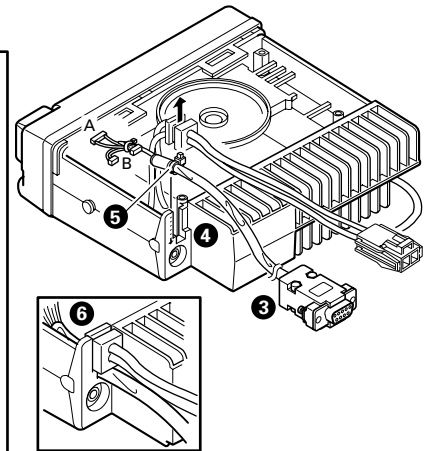

Fig. 9
6. Replace the DC cable bushing (❻).
7. Connect the KCT-31 to the TX-RX unit (A/2) as shown in Figure 9 (❼).
❼ When the COM1 is used.